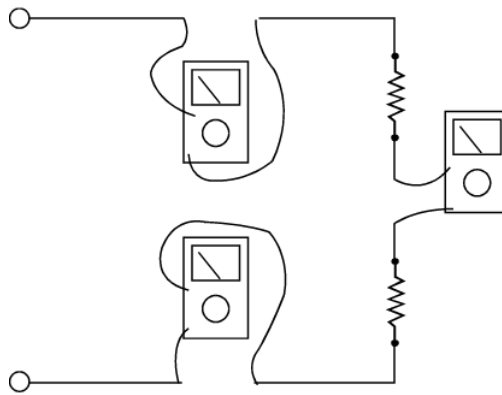

Figure 12.5.2: Ammeter connections to measure the same current at different points in a circuit (CC BY-NC-SA; BC Industry Training Authority)
5. Connect the tips of the probes across the break in the circuit as shown in Figure 12.5.2 so that the current to be measured flows through the meter. Note that this is a series connection. Never connect the ammeter in parallel with the source or load, as this will cause a short circuit and damage the meter